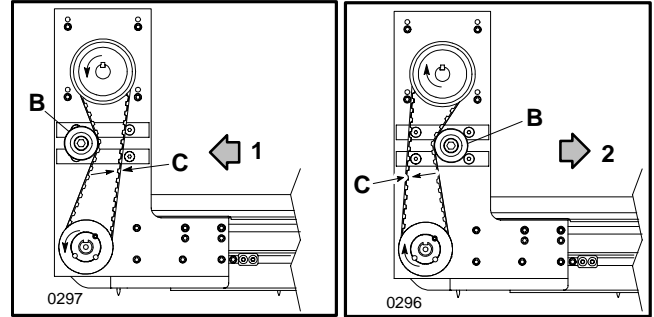
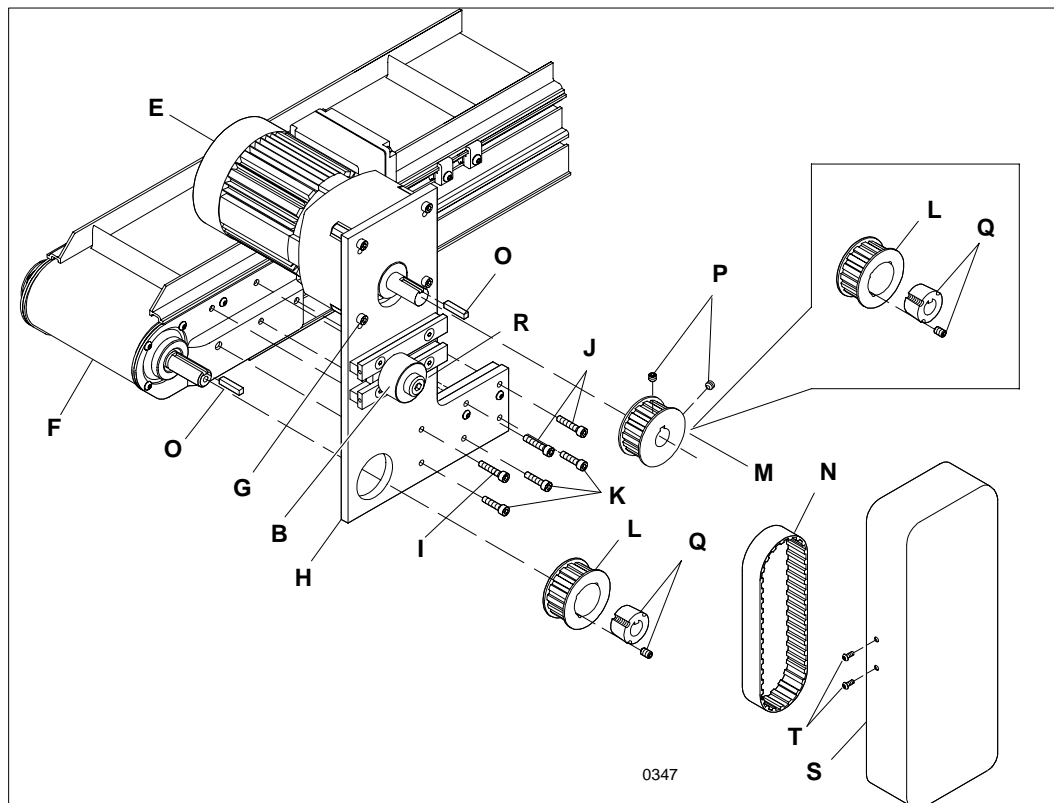

Figure 13: Top Drive Timing Belt Adjustment Detail
Figure 14: Top Drive Component Assembly Detail
1. Refer to Figure 14 and attach the gearmotor (E) and the motor mounting plate (H) to the conveyor (F) using one M6 x 30 mm socket head cap screw (I) in the top mounting hole of the mounting plate, two M6 x 16 socket head cap screws (J) in middle holes and three M6 x 20 mm socket head cap screws (K) in bottom holes.
The upper set (of 4) gearmotor mounting plate holes (G of of Figure 14) is only used when both gearmotor and conveyor shafts will have 16 tooth pulleys mounted to them. All other pulley combinations, use the lower set of mounting plate holes.
- Assemble the drive and driven pulleys (M and/or L) and timing belt (N). Place a square key (O) into the keyway on the gearmotor and conveyor shafts. Install the pulleys so that the timing belt is centered on the belt tensioning roller assembly and the pulleys are in line with each other. Tighten the pulley set screws (P) or Taper Lock® bushing screws (Q), which fasten the pulleys to the shafts. Determine which direction the conveyor belt is traveling and position the tensioning roller assembly on the slack side of the timing belt (Figure 13).
- Adjust timing belt tension by loosening the M12 x 25 mm socket head cap screw (R of Figure 14) and sliding the belt tensioning roller assembly against the belt. Tension should be measured at mid-point (C of Figure 13) of on the tension side of the timing belt. As a starting point for the tensioning process, there should be a 1/8" (3 mm) deflection with 6 lb (3kg or 26 N) of force.
- Attach the top drive cover (S of Figure 14) using four M4 x 10 mm button head cap screws (T).